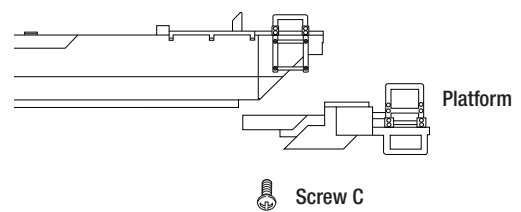

Figure 2b. Platform removal
2. Remove the Phillips head screw (labeled "C" on page 2) from the bottom of the platform. See figure 2b.